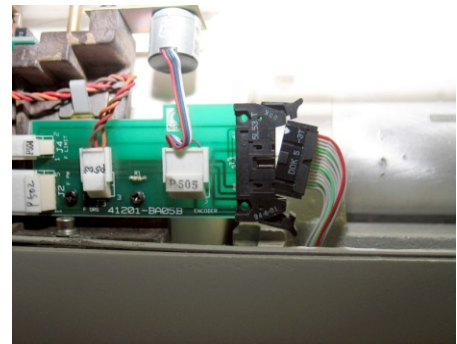

FIGURE 4
- 4) Disconnect the green, gray and red (CA03) cable on the left side of the LMU by spreading the black clips. (See Fig. 4) Pull the cable back and away from the board on the LMU.